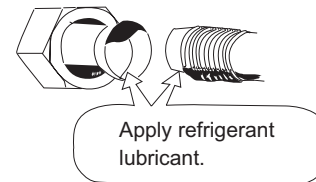

Fig. 2-245
- (1) Apply a sealing cap or water-proof tape to prevent dust or water from entering the tubes before they are used.
- (2) Be sure to apply refrigerant lubricant (ether oil) to the inside of the flare nut before making piping connections. This is effective for reducing gas leaks. (Fig. 2-245)